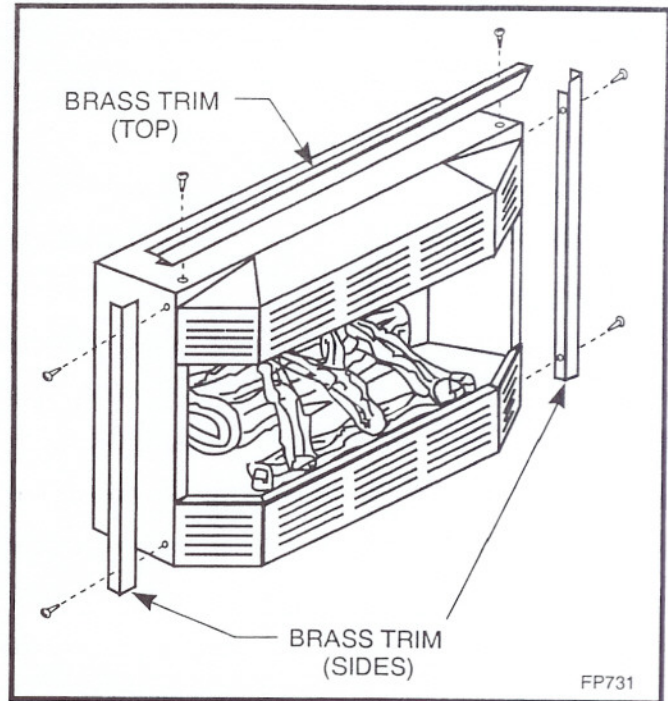

Fig. 3. Insulating brass trim.
2. Using the provides (2) screws attached the side pieces to the heater (See Fig.3.)